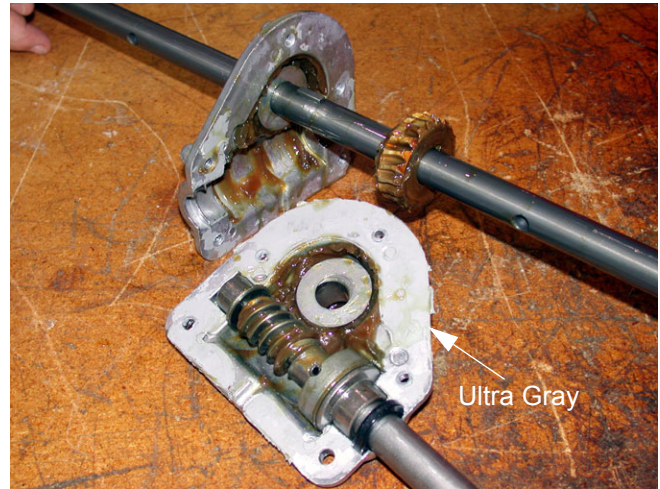

Figure 53
- 19.2. Separate the housing halves using a putty knife. See Figure 53.